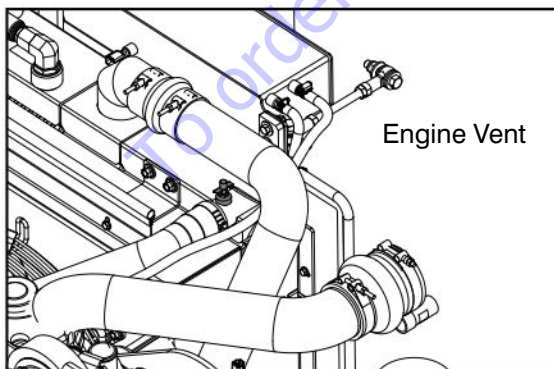

Figure 1-1 Engine Vent Location
1. Open engine vent. Leave vent open during radiator fill. Refer to Figure 1-1.